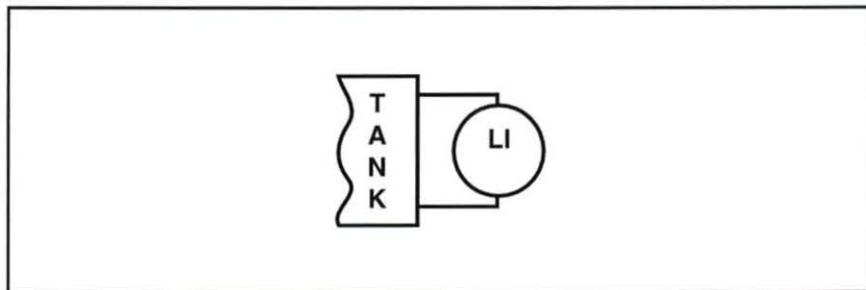

Figure 42. Level Sensing Element Symbol
6. Determine what type of level sensing element symbol is shown in figure 42.